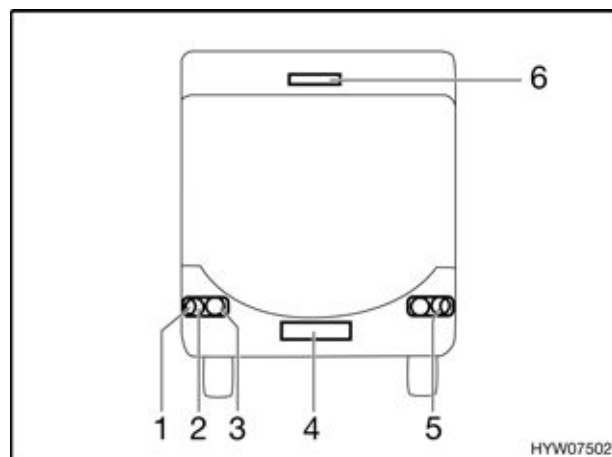
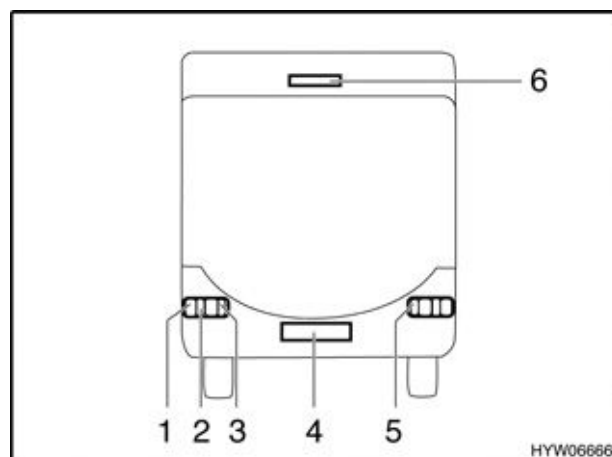

Fig. 174 Rear lights (variant 1)
Fig. 175 Rear lights (variant 2)
- Undo housing screws (Fig. 174,1 to 5 or Fig. 175,1 to 5).
Only replace third brake light (Fig. 174,6 or Fig. 175,6) completely.